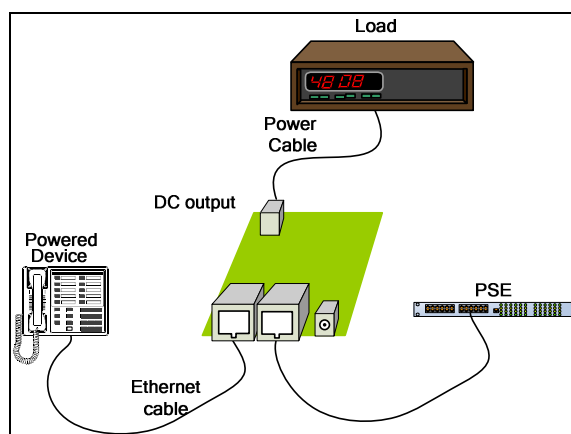

Figure 6: Test Setup
**Note:** It is important to verify Evaluation Board is setup as shown in Figure 6 prior to starting any operation.